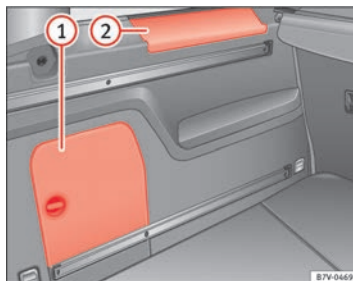

Fig. 114 In the luggage compartment: Side storage compartment
There are other compartments → Fig. 114 ① and ② in the side of the luggage compartment. To open the compartment ①, turn the catch clockwise. To open the compartment ②, lift the cover. The factory-fitted **CD changer** ►